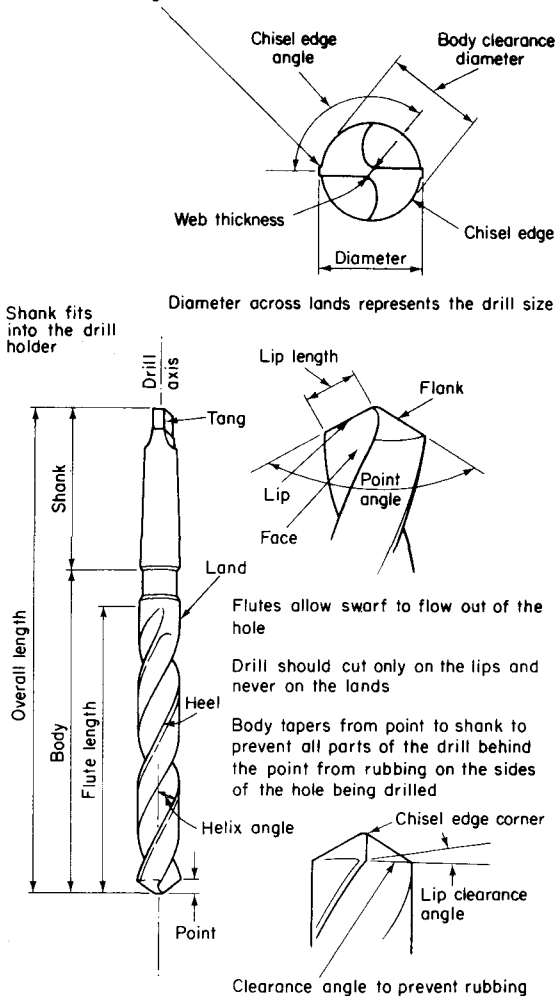
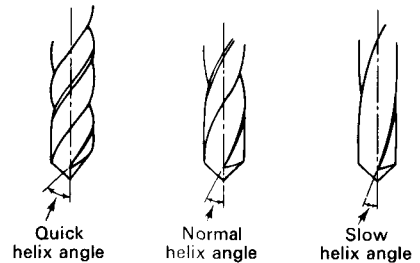

Fig. 4.72 The twist drill
Fig. 4.73 The helix angle
**The twist drill** (Fig. 4.72) is the most widely used tool for drilling holes.
**Drill angles.** For a drill to cut properly it must have a clearance angle and a rake angle. The clearance angle is provided as shown in Fig. 4.72. The rake angle is provided by the helix of the flutes (Fig. 4.73). It is possible to alter the clearance angle when grinding the point but the rake angle is fixed at the time the drill is made. We can, however, choose drills with the correct helix angle for the material being cut. The table opposite gives suitable point and clearance angles and recommended helixes for cutting various materials.